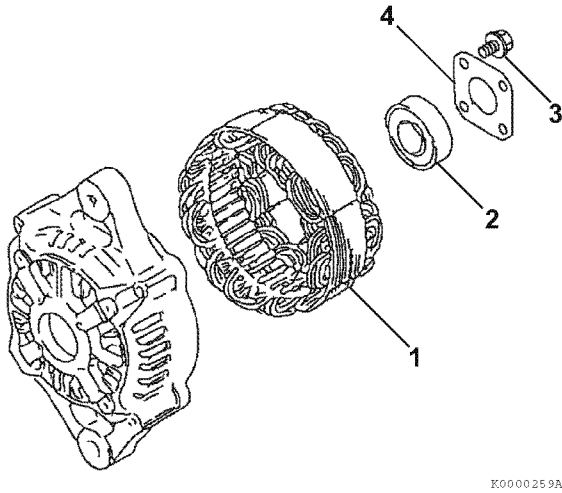

Figure 11-13
- If removed, lubricate the outside diameter of a new front frame housing bearing. Press the bearing (**Figure 11-13, (2)**) into the front frame housing. Reinstall the plate (**Figure 11-13, (4)**) to the front housing. Tighten the four bolts (**Figure 11-13, (3)**).
- Position the stator assembly (**Figure 11-13, (1)**) on the front frame housing studs.